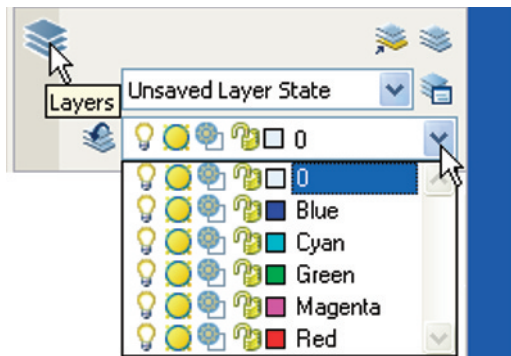

Fig. 16.6 Set up five new layers
8. Set up five layers of different colours. In the author's template these have been named after the colours (Fig. 16.6).